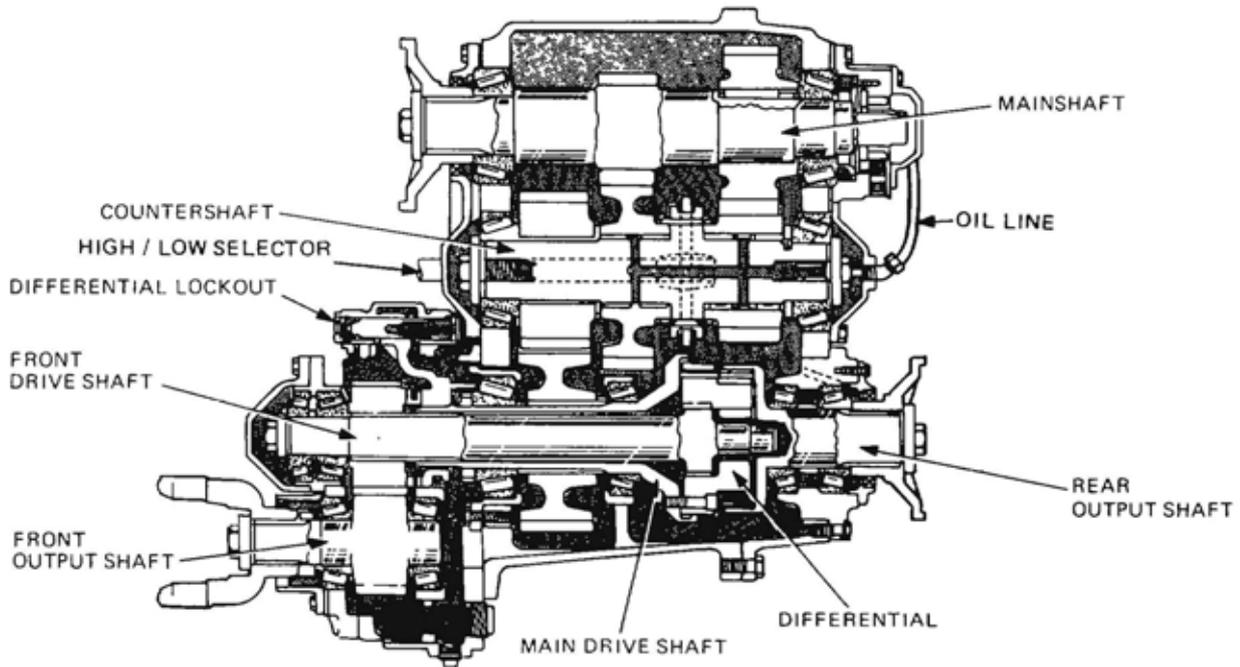

Figure 58 Sectional View of Transfer Case
**83.** The Mack TC-150 two-speed manual change transfer case, as shown in Figure 58 is fitted to the vehicle. Incorporated in the transfer case is a planetary gear type centre differential for front-wheel drive availability at all times without requiring driver attention. However, for extreme traction conditions, a driver-controlled, air actuated, differential lockout is provided.